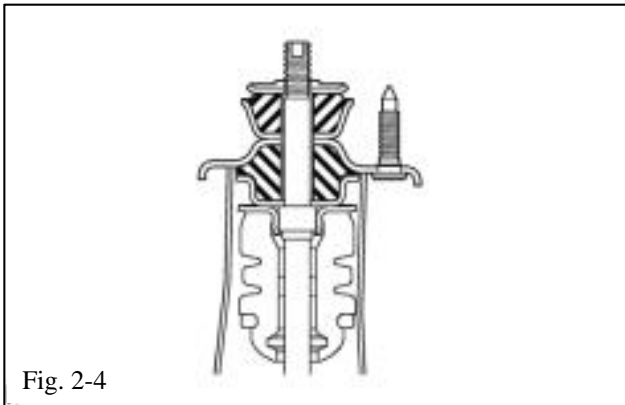

Fig. 2-4
- (f) Ensure the cushions and washer (lip turned up) are assembled in the correct direction and order (Fig. 2-4).